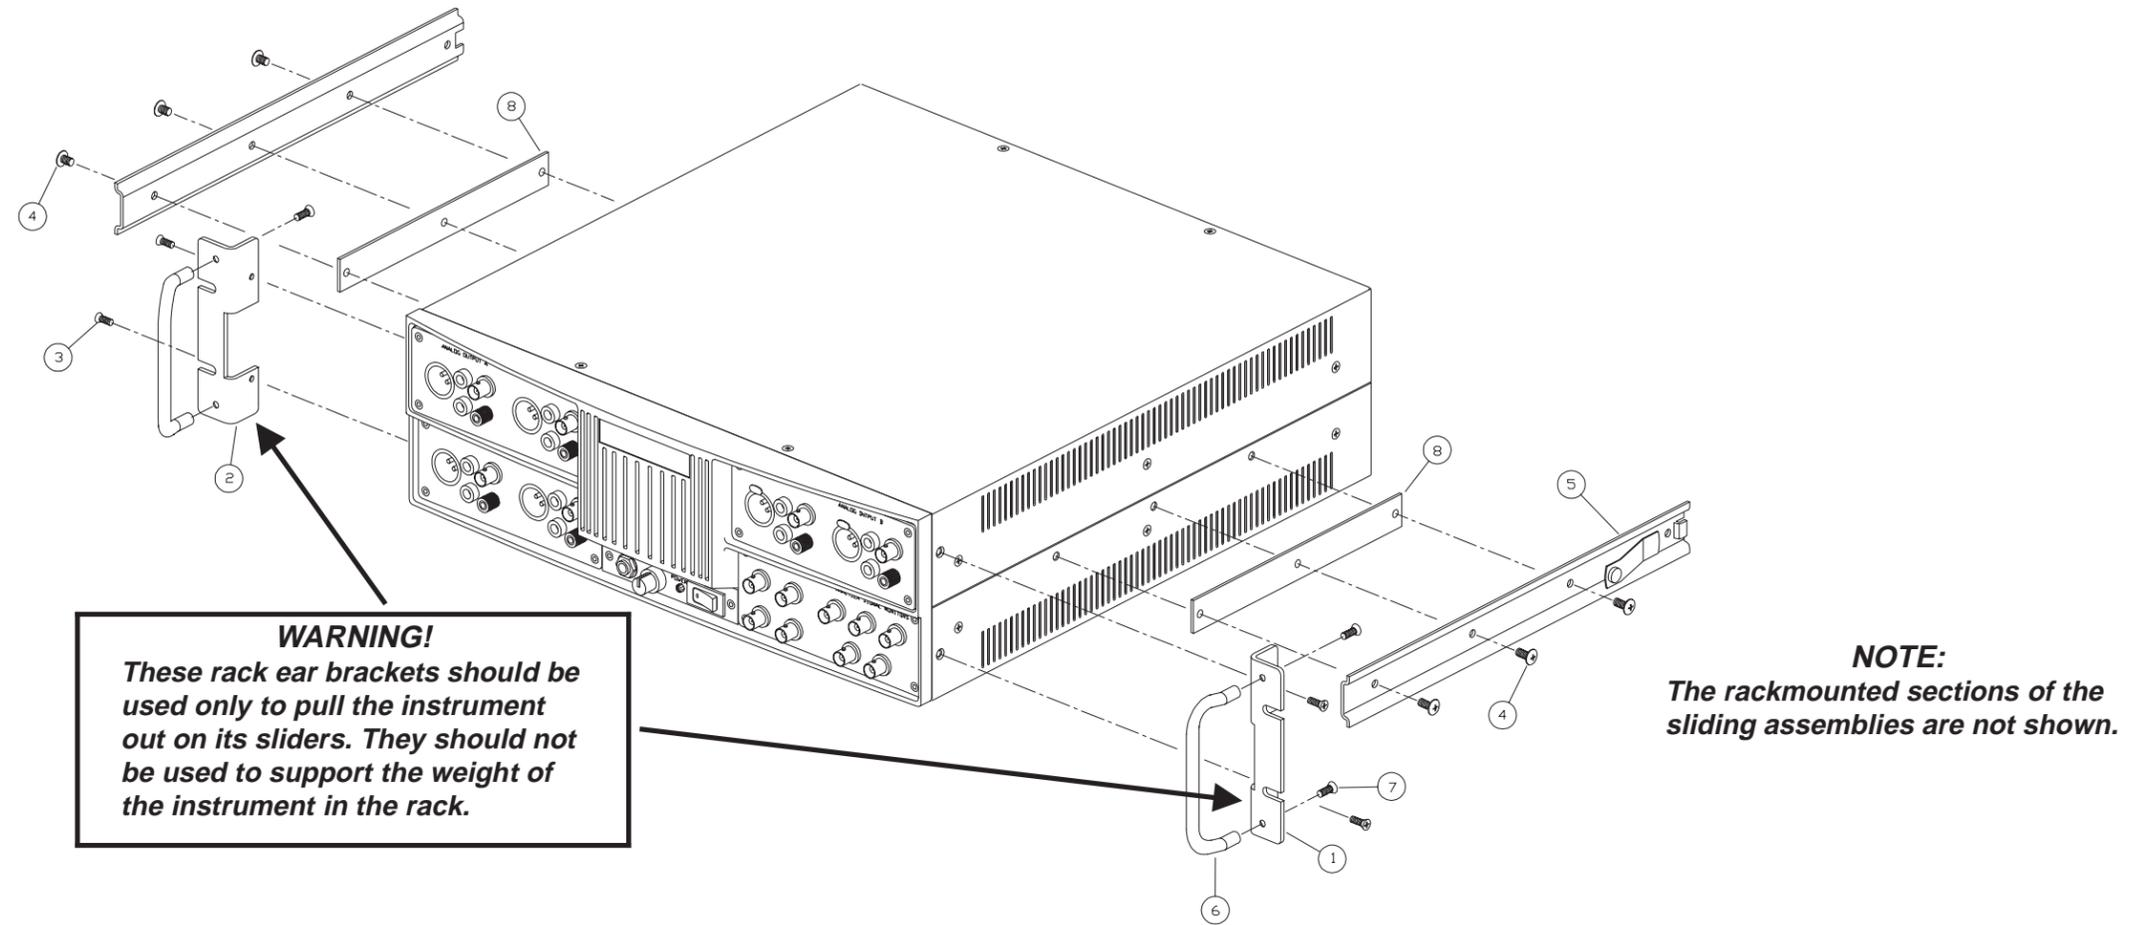

Figure 1. Slide-out rackmounting installation
Refer to Figure 1 while performing the following instructions.
2. Install the two rack ear brackets (items 1 and 2), using the 6-32 x 5/16 screws (item 3) from the kit. Note that there is a right and a left bracket. The correct bracket will have its cutout section toward the lower part of the instrument when installed. *OBSERVE THE WARNING* on the figure above.
3. Install the handles (item 6) on the rack ear brackets, using the 8-32 x 1/4" flathead screw (item 7) from the kit. Note that the handles should be positioned with their offset toward the center of the instrument.
4. Attach the sections of the rackmount adapters (item 5) to the instrument as shown in Figure 1, using the rackmount slide spacers (item 8) and 10-32 x 5/16" truss head screws (item 4) from the kit.